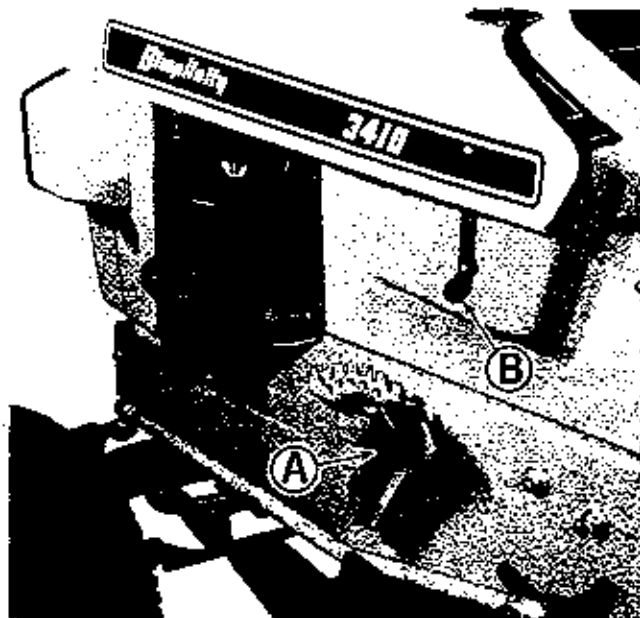

Figure 6. Left side of tractor
See figure 6. The tractor hood is hinged at the front by two spring loaded bolts. It may be easily opened by releasing the two rubber straps (B) located on either side of the hood. Pull down and out on the straps to release them. Lift upward on the back of the hood to raise. The hood raised in this position provides easy access to the generator, battery, fuel tank, engine, etc.